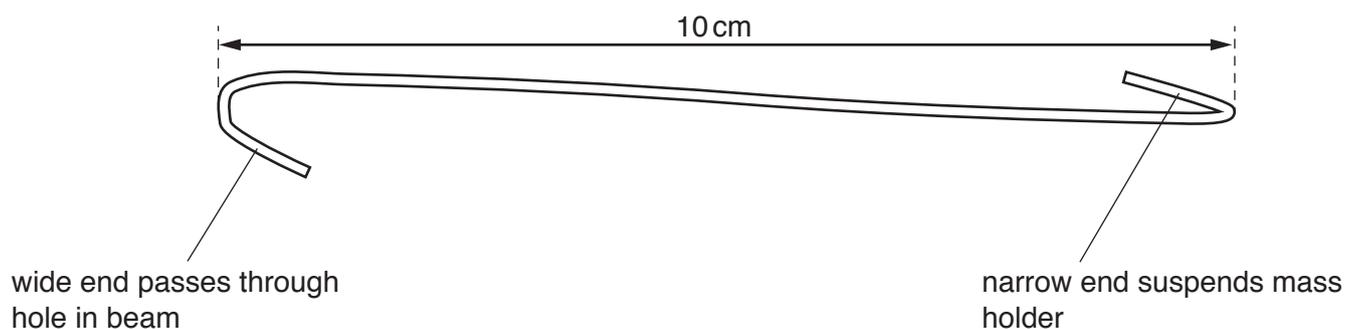

Fig. 3.5
- Candidates will use the wire hook to suspend the 200 g mass from the L-shaped beam. A suitable hook may be made using a large steel paper clip, as shown in Fig. 3.5. It must be possible to suspend a 200 g mass from one end of the wire hook.